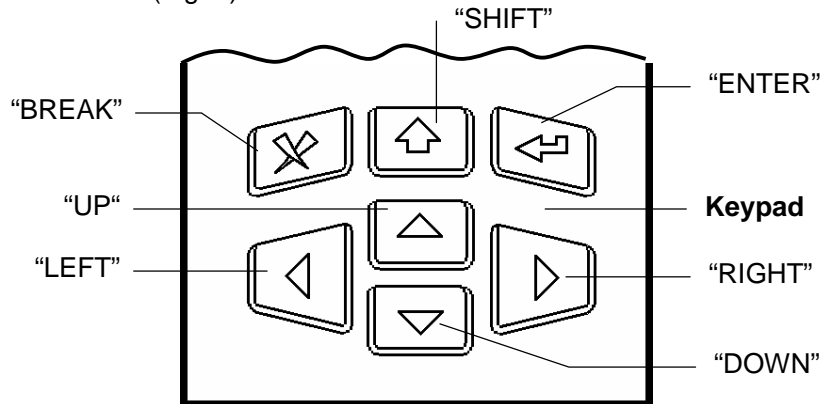

Fig. 5
- Connect the AC Power Pack with a power supply circuit 220V 50Hz. Press SHIFT key and hold it down during 1-2 seconds (Fig. 5).
- Press SHIFT key and hold it down during 1-2 seconds (Fig. 5). The initial splashscreen given by Fig. 6 appears on the Display. It contains the manufacturer's name and the DAMI-C HA01's serial number. DAMI C HA01 is ready to operate.
- Escape from operating modes by pressing BREAK key (Fig. 5) possibly several times until you reach the initial screenshot given by Fig. 6.
- The Display's contrast can be changed from the initial splashscreen only. Escape from operating modes by pressing BREAK key (Fig. 5) possibly several times until you reach the initial screenshot given by Fig. 6 if necessary.
- Press the UP (DOWN) key (Fig. 5) to increase (decrease) the contrast value.
- The Display backlight can be changed from the initial splashscreen only. Escape from operating modes by pressing BREAK key (Fig. 5) possibly several times until you reach the initial screenshot given by Fig. 6 if necessary.
- Press the RIGHT (LEFT) key (Fig. 5) to change the state of Display's backlight.